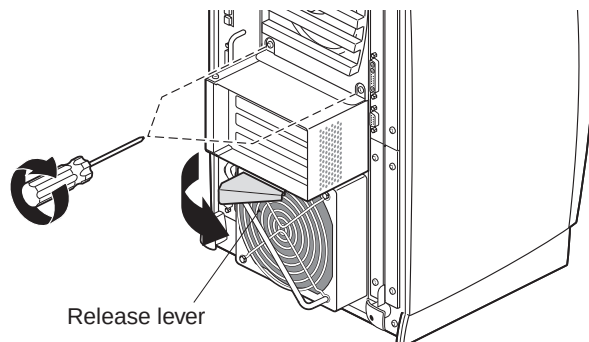

Figure 2 Releasing the PCI Module
2.) Loosen the two captive phillips screws (see Figure 2).
3.) Pull out the release lever along the bottom of the module (see Figure 2).